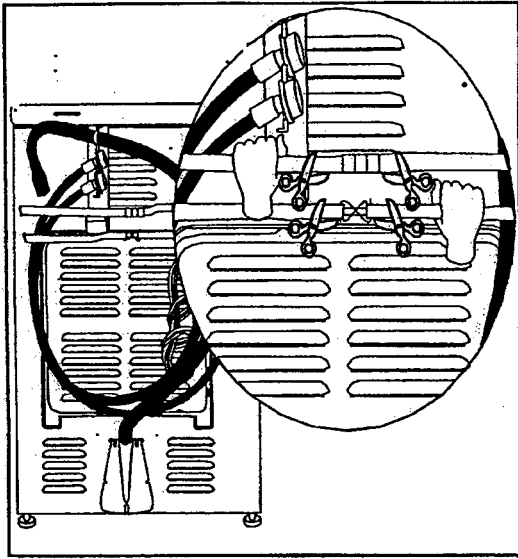

Figure 1-1
- a. Locate the metal buckles securing the red straps extending through slots in the rear wall of the cabinet. The buckles are positioned in the center of the red straps. Carefully cut the red straps, completely removing the metal buckles. **NOTE: *Cut the straps as close to the buckles as possible.*** Discard the metal buckles (*Figure 1-1*).